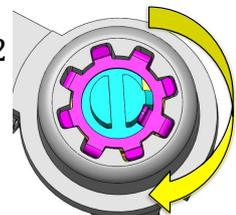

Figure 2.4
- C. Turn the AFR screw in 1/8 turn increments, counterclockwise to make the fuel mixture richer or clockwise to make the fuel mixture leaner (Figure 2.4). If the engine continues to run rich or lean after the initial adjustment, a further adjustment in 1/8 turn increments may be necessary.